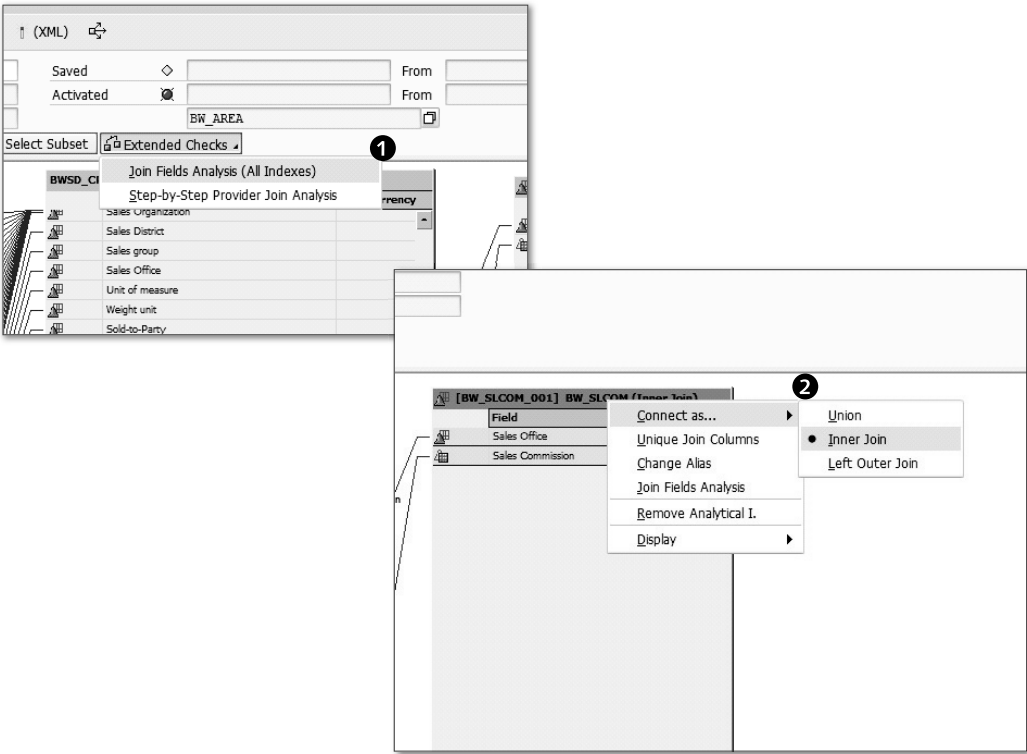

Figure 6.73 Defining a CompositeProvider: Part 3
The EXTENDED CHECKS button (❶ of Figure 6.73) provides you options to analyze the defined joins and debug the definition of the CompositeProvider. Also, the context menu from the header of the inserted object gives you options to toggle between union and other join settings ❷.